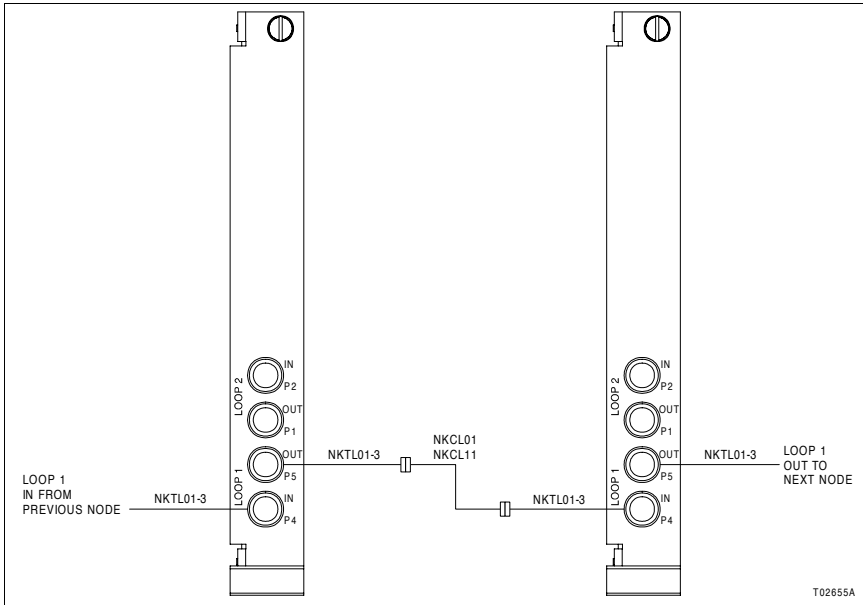

Figure PR12-3. Intercabinet Cnet Connections
- 3. Connect intercabinet Cnet using an NKTLO1-3 cable as shown in Figure PR12-3. Use this method when the: